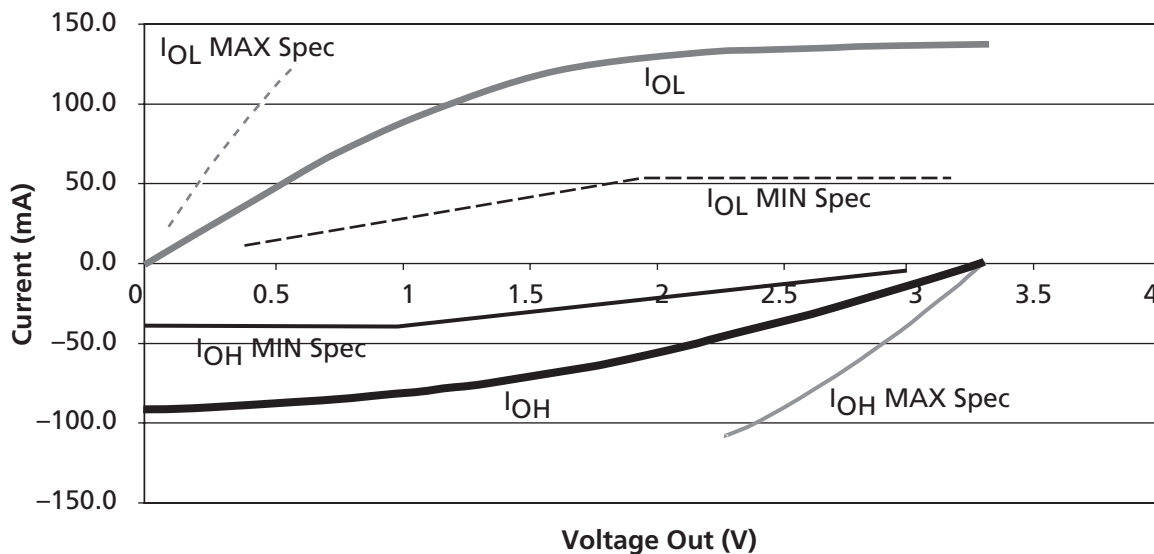

Figure 2-2 • 3.3 V PCI V/I Curve for SX-A Family
1. Refer to the V/I curves in Figure 2-2 on page 2-7. Switching current characteristics for REQ# and GNT# are permitted to be one half of that specified here; i.e., half size output drivers may be used on these signals. This specification does not apply to CLK and RST#, which are system outputs. "Switching Current High" specifications are not relevant to SERR#, INTA#, INTB#, INTC#, and INTD#, which are open drain outputs.
2. Maximum current requirements must be met as drivers pull beyond the last step voltage. Equations defining these maximums (C and D) are provided with the respective diagrams in Figure 2-2 on page 2-7. The equation defined maximum should be met by design. In order to facilitate component testing, a maximum current test point is defined for each side of the output driver.
Figure 2-2 shows the 3.3 V PCI V/I curve and the minimum and maximum PCI drive characteristics of the SX-A family.